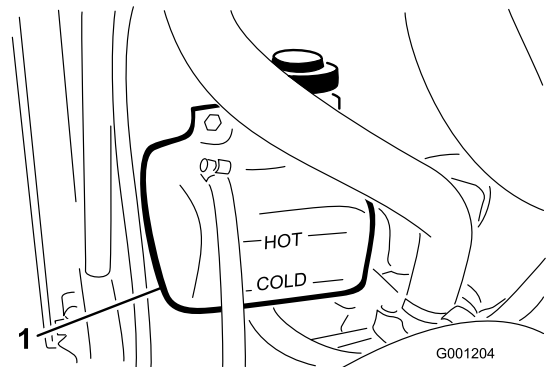

Figure 73
1. Check the level of the coolant in the expansion tank (Figure 73).